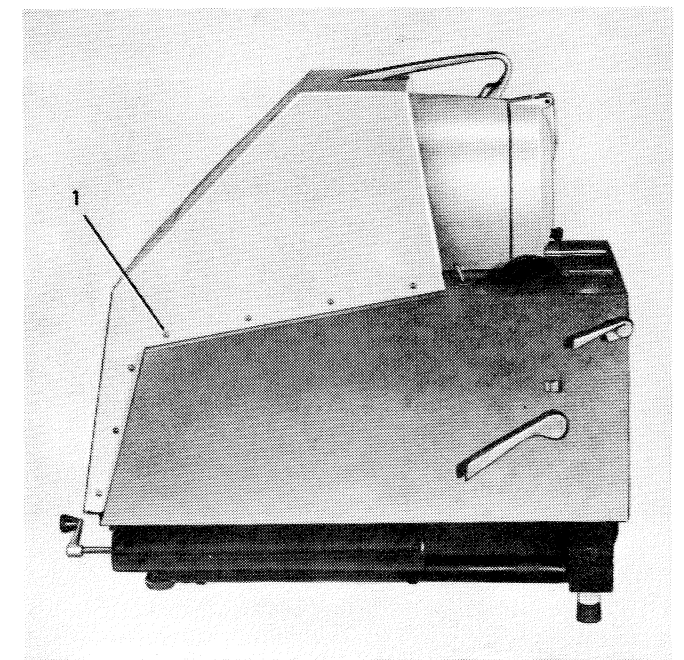

Figure 6—Side View
- Remove the top housing by removing 7 screws (1, Fig. 6) from each side of the projector.